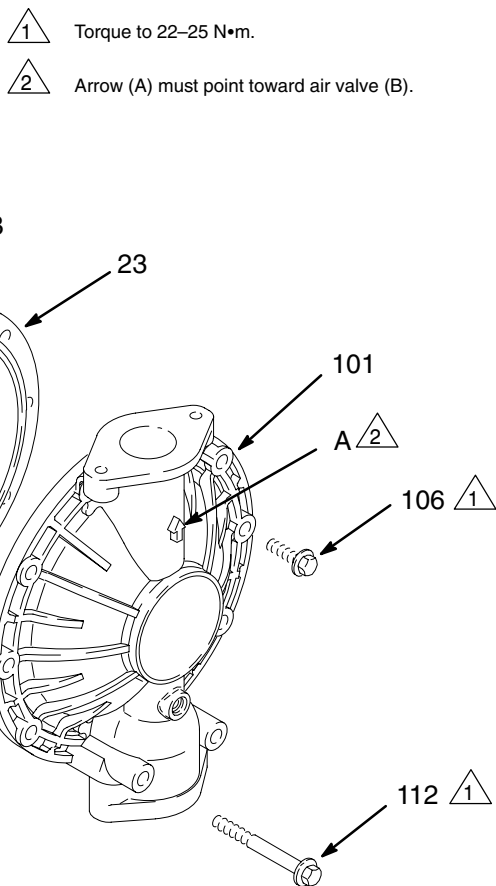

Fig. 11
3. Using a 13 mm socket wrench, remove the screws (106 and 112) holding the fluid covers (101) to the air covers (23). Pull the fluid covers (101) off the pump. See Fig. 11.
2. Install the diaphragm assembly on one end of the shaft (24) as follows:
- a. Install the o-ring (108*) on the shaft bolt (107).
6. Align the fluid covers (101) and the center housing (1) so the arrows (A) on the covers face the same direction as the air valve (B). Secure the covers with the screws (106 and 112), handtight. Install the longer screws (112) in the bottom holes of the covers. See Fig. 11. Using a 13 mm socket wrench, torque the screws oppositely and evenly to 22–25 N•m.